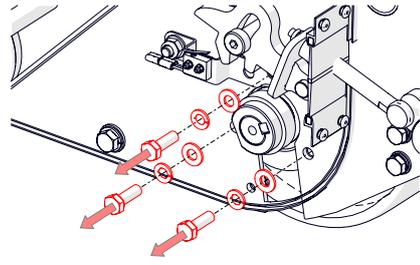

Fig.20J - Remove LH bearing hex screws
13. Double check to see if the rear roller is still supported. Remove the 3 x hex screws supporting the LH bearing [13 mm spanner] (Fig.20J).